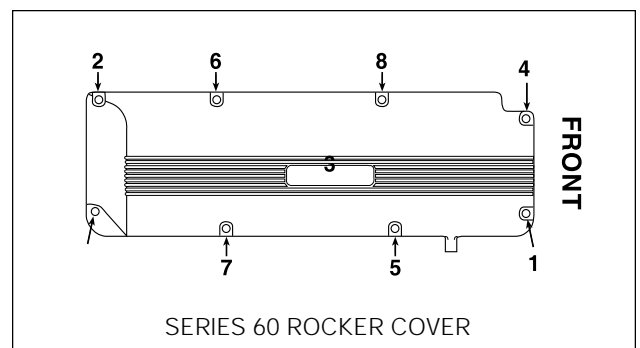

FIG. 1
3. Tighten the bolts to 14 N•m (10 lb-ft) in the sequence shown in Fig. 1.